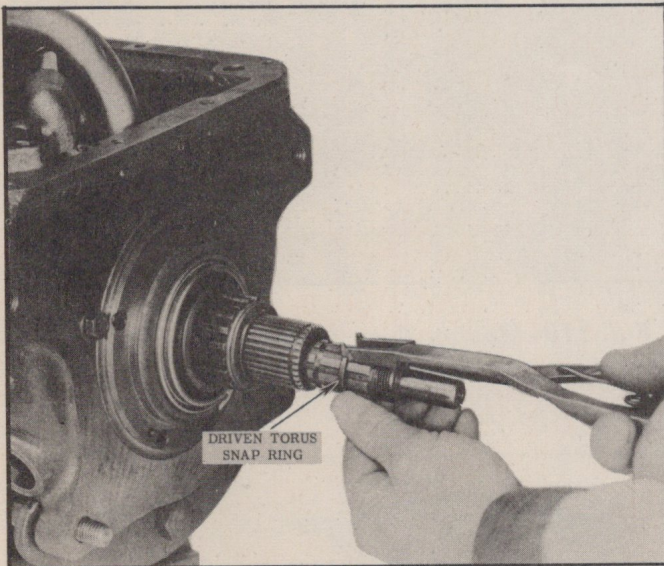

Fig. 113—Removing Driven Torus Snap Ring
3. Remove driven torus snap ring from main shaft (Fig. 113) using snap ring pliers.